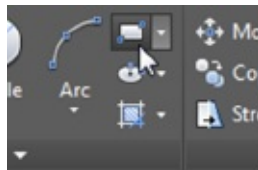

FIGURE 1.25 Click the Rectangle tool in the Draw panel.
1. Making sure that you have the newly created drawing as the active window, click the Rectangle tool in the Home tab's Draw panel, as shown in Figure 1.25.